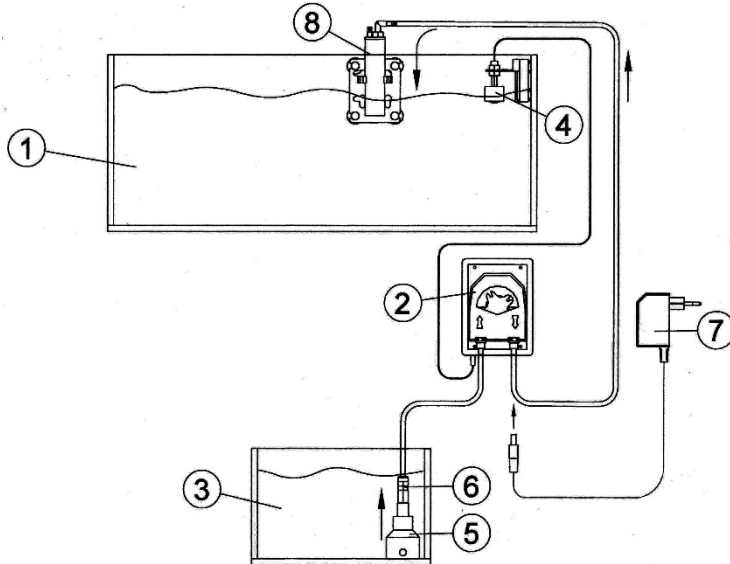

Fig. 1: Installation method for dosing from a dispensing vessel
- The pump is self-priming and should be mounted above the water level of the liquid storage tank (see Fig. 1).
- The outlet should always be positioned above the aquarium or sump. If the pump stops with the drive axle in the horizontal position then the pump will not act as a non-return valve. The air gap between the outlet hose and water prevents aquarium water being syphoned back into the liquid storage tank (see Fig. 1).
- The non-return valve (6) must be placed in the inlet fitting (5) of the pump. This prevents the pressure tube emptying and ensures that the same volume is dosed during each operating cycle (see Fig. 1).
- **Level sensor:** At aquaria with an internal filter or a closed filter system (Fig. 1), the level sensor is placed directly in the aquarium. The swimmer has to be placed exactly at the height of the desired water level. To fix the sensor, it is mounted on the holding plate and fixed with rubber suckers at the aquarium glass. Take care to fix it safely. To be sure we recommend to glue each rubber sucker with a drop of aquarium silicone on the glass plate. At aquaria with open filter systems under the tank, the level sensor has to be fixed in the filter tank in the height of the desired water level (Fig. 2).
- **Suction fitting:** The suction side of the pump (left connection) is connected to the suction hose (4/6 mm) and to the storage vessel and connected to the suction fitting (5). Glass or plastic tanks and canisters with the right volume can be used as storage vessel. The suction fitting is placed at the bottom of the storage vessel.